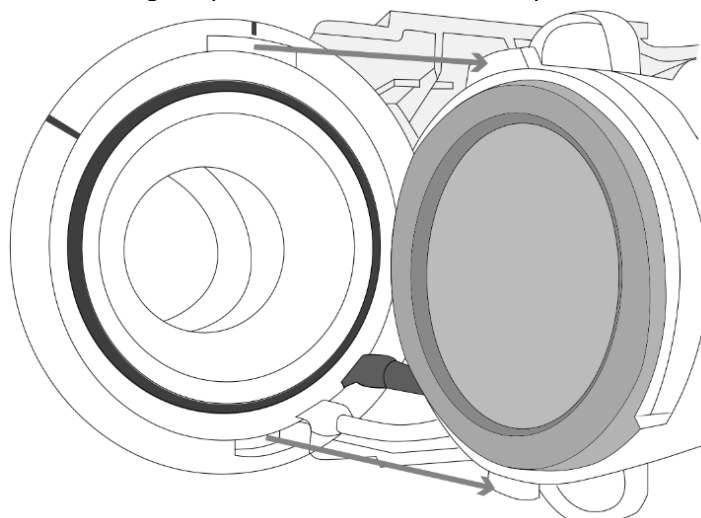

Figure 11 - Line up large slot with large key and small slot with the key
6. Fit Patient Valve Subject End to Heater Assembly by lining up large and small alignment keys as in Figure 11 and then turning the parts clockwise to the lock position. This forms the Patient Valve.